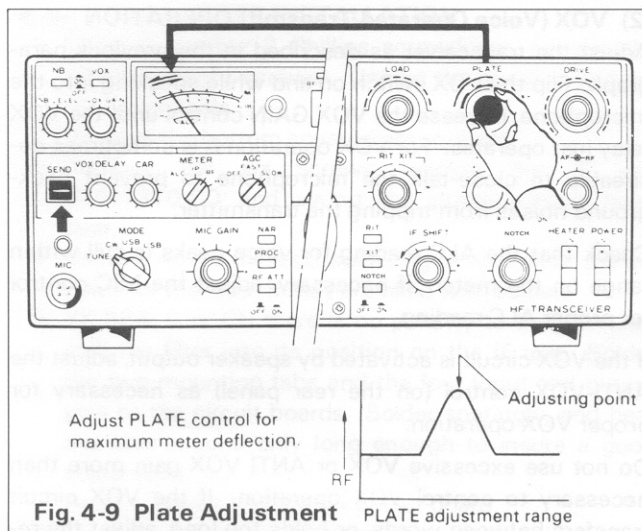

Fig. 4-9 Plate Adjustment
6. Place the meter switch to Ip and dip the PLATE. Dip will be typically only about 5 ma. (or to RF and peak the plate) Fig. 4-9
(4) CW OPERATION (Fig. 4-9)